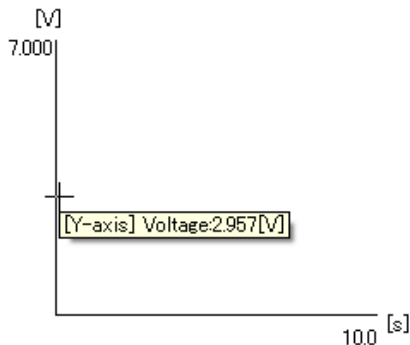

Fig. 7-1 Start Point of the Mouse
- (1) Move the mouse pointer to the Y-axis. This causes the pointer to change to a crosshair (Fig. 7-1).